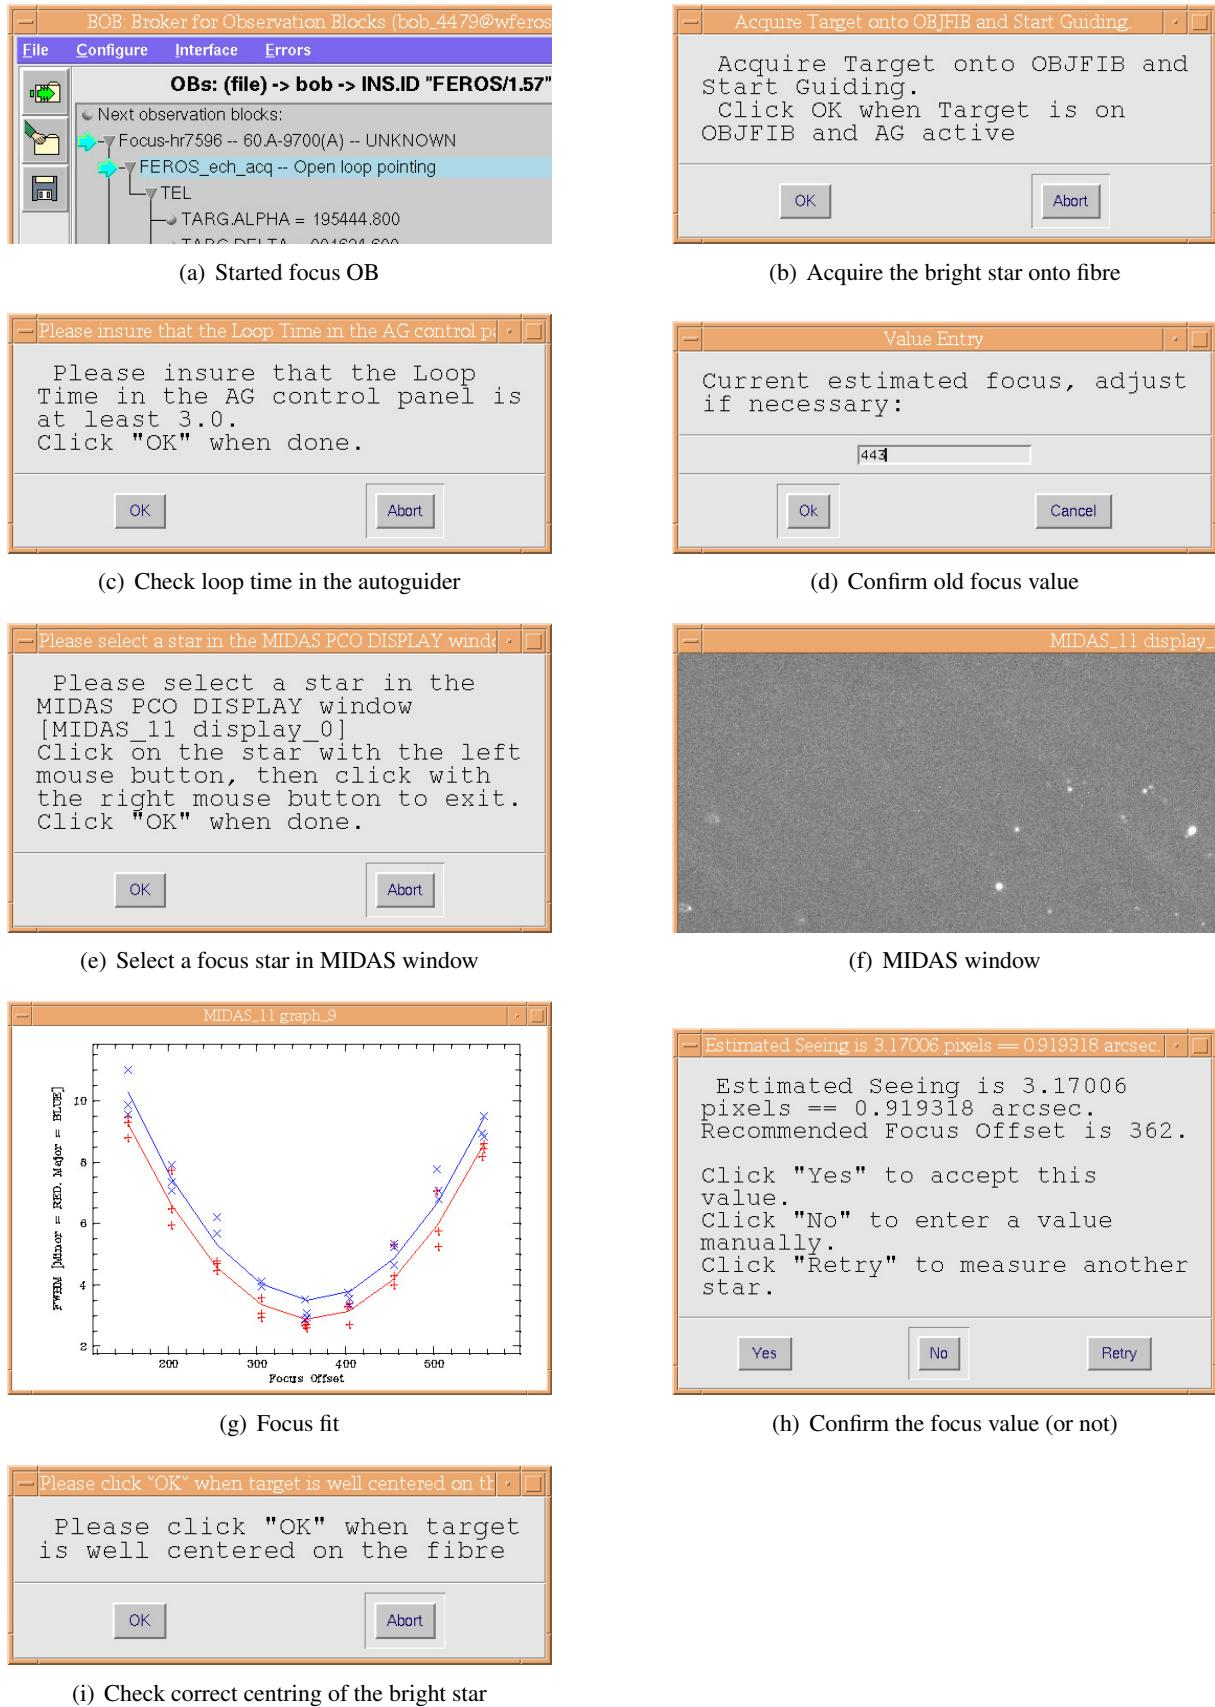

Figure 5.2: Focus with FEROS.
Focusing with **FEROS** takes about 5 minutes. It is summed up in Fig. 5.2, p. 50 and detailed in Procedure 5.7, p. 49.
- B5. Click **Start** (Fig. 5.2(a)).
- C4. Once guiding, click on popup asking for acquisition (Fig. 5.2(b)).
- D2. After about 30 s, click **OK** to pop-up asking to ensure loop time is more than 3 (Fig. 5.2(c))
- D4. Shortly after, a pop-up asks to select a star to **focus** on (Fig. 5.2(e))
- a. A **MIDAS** image appears, left and right-click on a non-saturated source (Fig. 5.2(f)).
- a. The white graph window should have points a two curves fitting them (Fig. 5.2(g))
- b. A pop-up appears asking action to take about focus fit (Fig. 5.2(h))